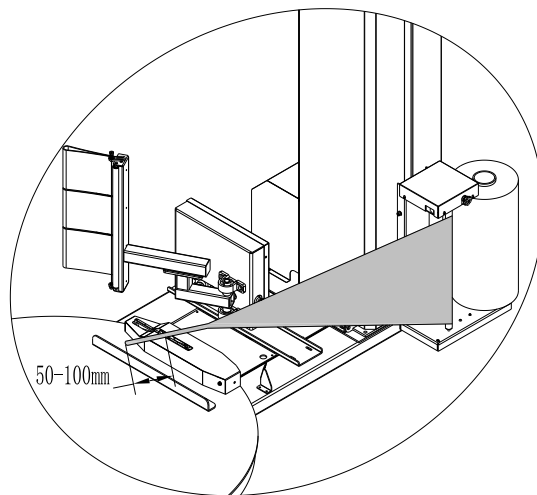

Figure 14
3. Attach the film securely to the film clamp and leave 50-100mm longer than the clamp (See Figure 14)
3. Attach the film to film clamp according to Figure 14